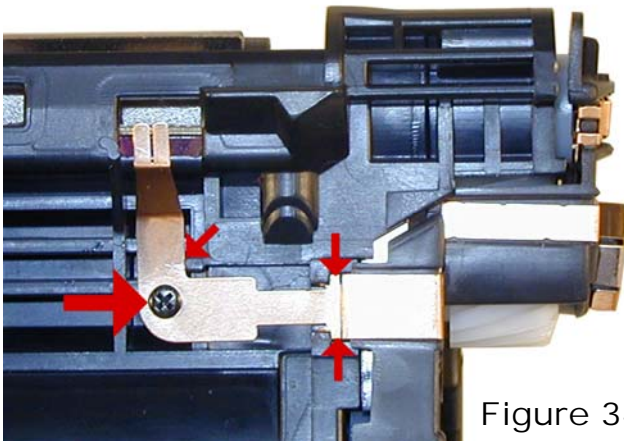

Figure 34
27) Install the black end cap on the gear side. Press the contact in place, and install the small black screw. Install the three silver screws. See **Figure 34**